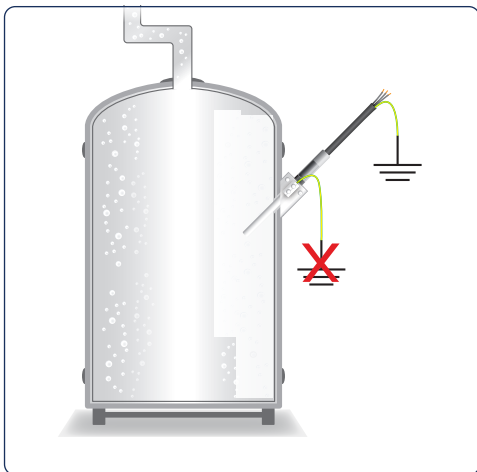

Figure 1: Single-use container with no earth connection: Connect cable shield to earth.
**NOTICE:** Avoid earth loops (see Figure 1), and damage of the VisiFerm SU due to electrostatic discharge while mounting and dismounting of the VisiFerm SU or the cable. Do not touch contacts of the connector.